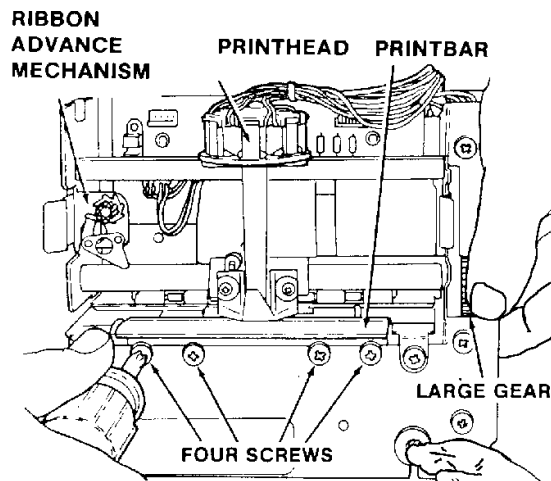

Figure 18. Loosening
- b). Check the ribbon advance mechanism for proper movement (See Figure 18).
- d). Oil pivot points of ribbon feed and clamp mechanisms (See Figure 18).
- d). Loosen the four screws which secure the printbar (See Figure 18).